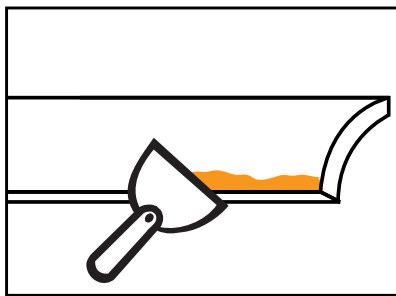

FIGURE 72 Butter Up
- > Spread a 10mm continuous bead of cement along both back edges and the mitred end of the cornice [Figure 72]